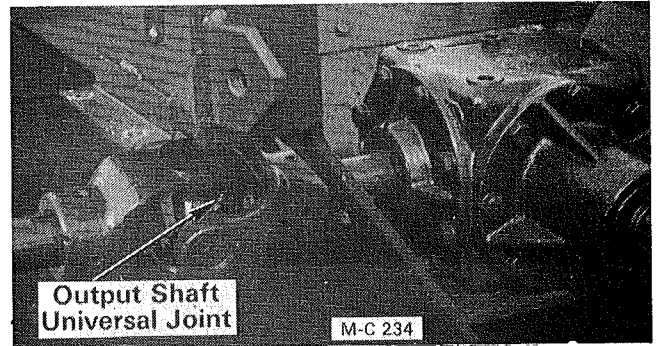

Figure 23 - Two on Model 2206 & 2408
4. Output shaft universal joint, see Figure 23, located under the output shaft guard.